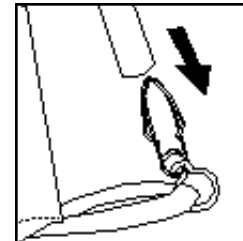

Figure 5A
6. Insert the spring pins on the black webbing located by the floor seams at each corner of the tent into the end of the pole (figures 5A, 5B and 5C). Repeat for the other gold pole on the SAME side.